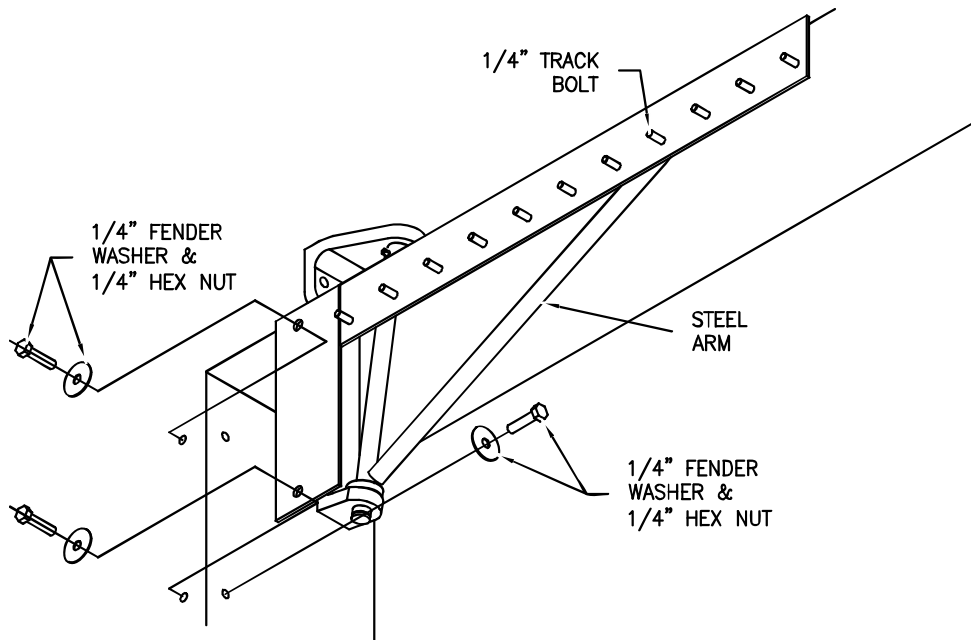

FIG. 6b
- d. Attach hinge bracket assembly to jamb (Fig. 6b).